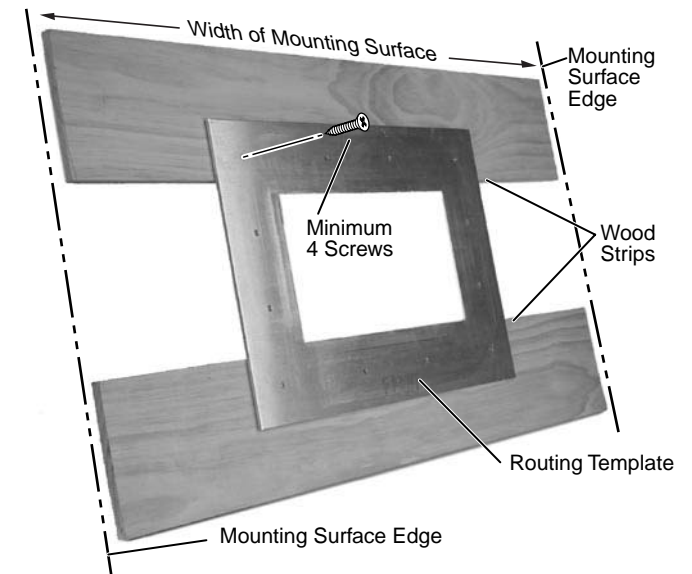

Figure 2-1 — Prepared mounting template
- 1 Cut 1/2" x 4" strips of soft, finished lumber long enough to span the distance between the desired installation location on the mounting surface and the edges of the mounting surface (figure 2-1).